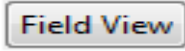

**Figure 3-1. BQStudio Device Type Selection Window**
1. On the computer connected to the EV2400 interface board, launch Battery Management Studio (BQStudio). Select Charger as seen in Figure 3-1.